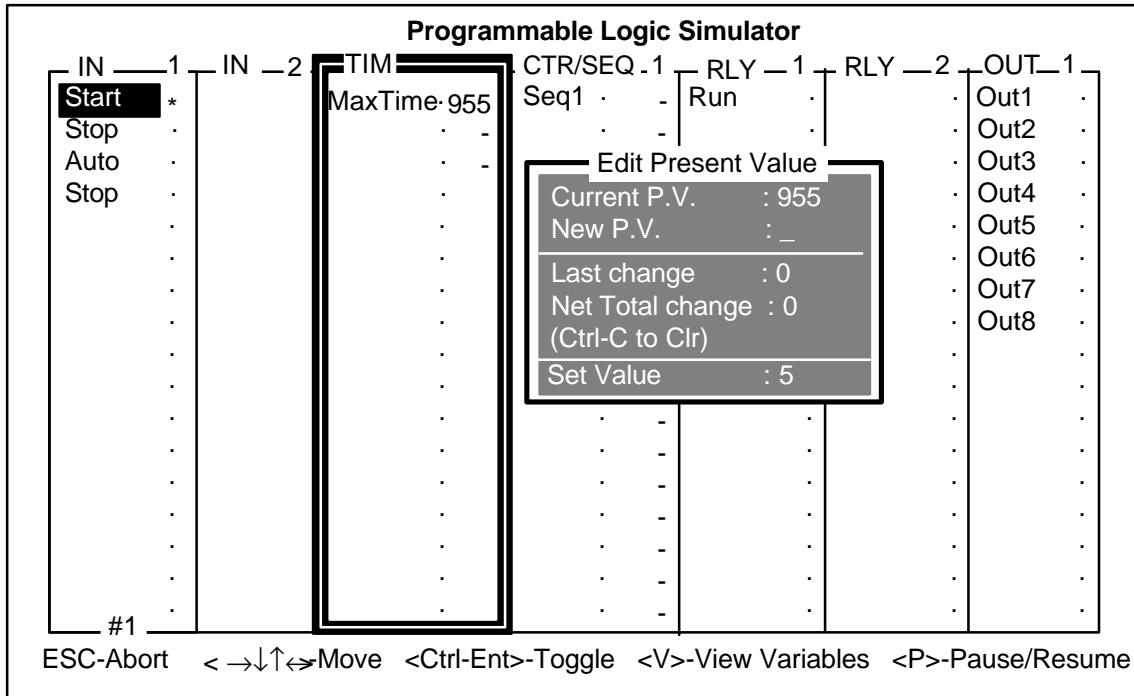

Figure 3.13
If the timer has not timed out yet, you can speed it up during simulation by changing its Present Value (PV). To do this, use the left/right cursor keys to select the "TIM" window and up/down cursor keys to select the "MaxTime" timer. Press <Enter> once and a window for you to edit the present value will appear as shown in Figure 3.13.